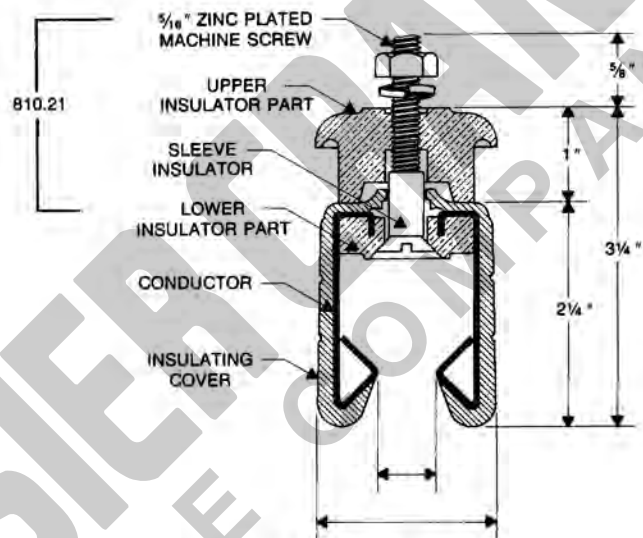

FIGURE 70
1. Attach 810.21 support insulator assemblies to conductor bar sections. Additional 810.21 support insulator assemblies can be added by poking a hole in the top of the insulating cover of conductor bar at the point of required support, and inserting the lower insulator and bolt between the bars and pushing up until the insulator is seated, as shown in Figure 70, then screwing the upper insulator on the bolt from the top. If conductor bar sections are to be formed into curves, bending and cutting, if required, should be completed before attaching support insulator assemblies.
7. Install powerfeed 810.37. Refer to Figure 75. To install powerfeed, cut a rectangular slot in the top of the insulating cover as shown in Figure 70. The slot should be approximately 2" long and the same width as the inside dimension between the lips of the steel conductors. Cut two notches about 3/8" wide and about 1/4" off the transverse center line of the slot to accommodate the clamping screws. Insert terminal lugs and securely tighten clamping screws. Attach terminal connectors to lugs and connect power feed-in conductors. Place center insulator section between the two terminal lugs. Break out the thin plastic sections at one end of the side insulators and clamp the housing together with the screw provided.